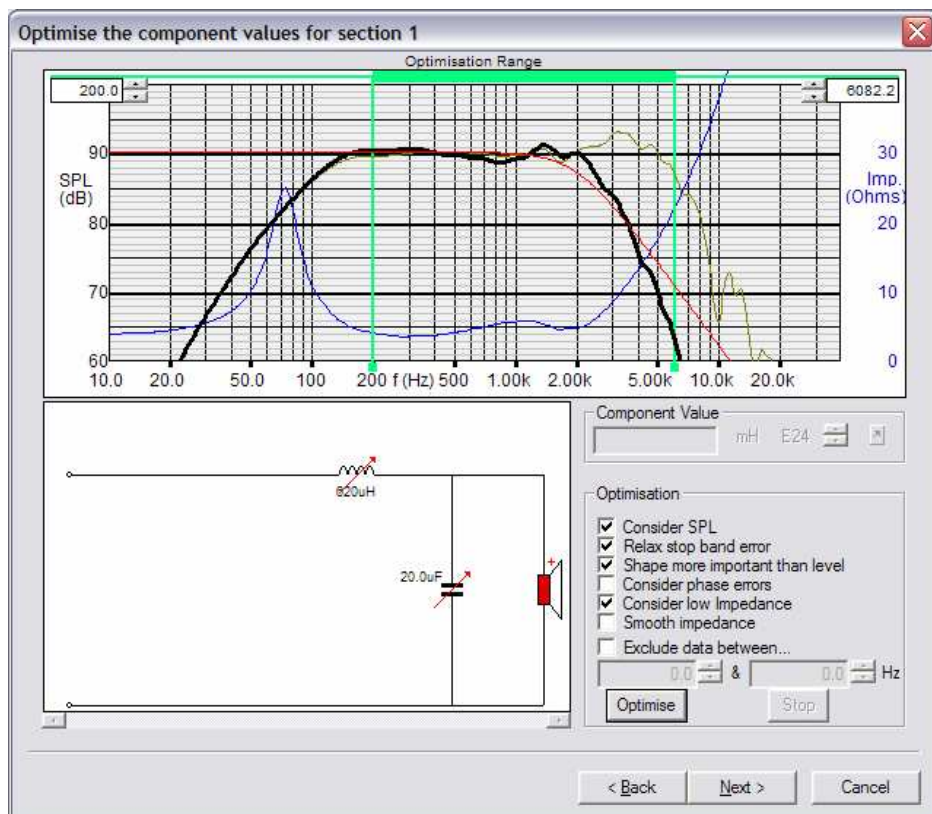

Figure 5. Optimise section 1
The next screen is the 1st (woofer) section Optimiser, Fig 5. Let us optimise the x-over components to the target 2nd order Low Pass response (red—), while keeping a minimum impedance of 4 ohms -20%=3.2 ohms (according to the common IEC 60268-5 standard). We observe that the inductor (L) and capacitor (C) already are marked for optimisation, by the red arrows.